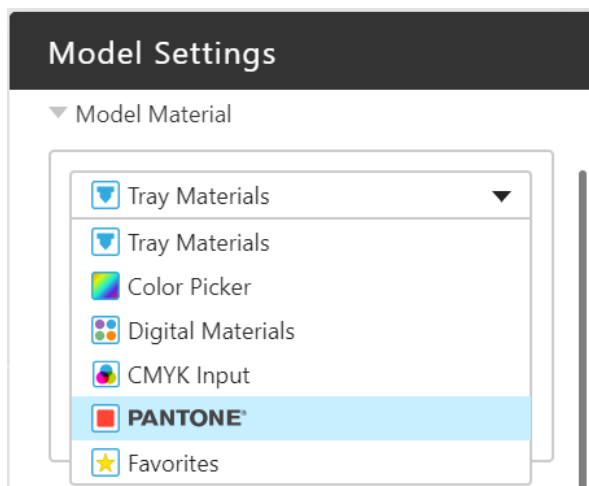

Figure 3: Selecting Pantone in GrabCAD Print
- These five materials must be loaded in the material cabinet (see Figure 3):